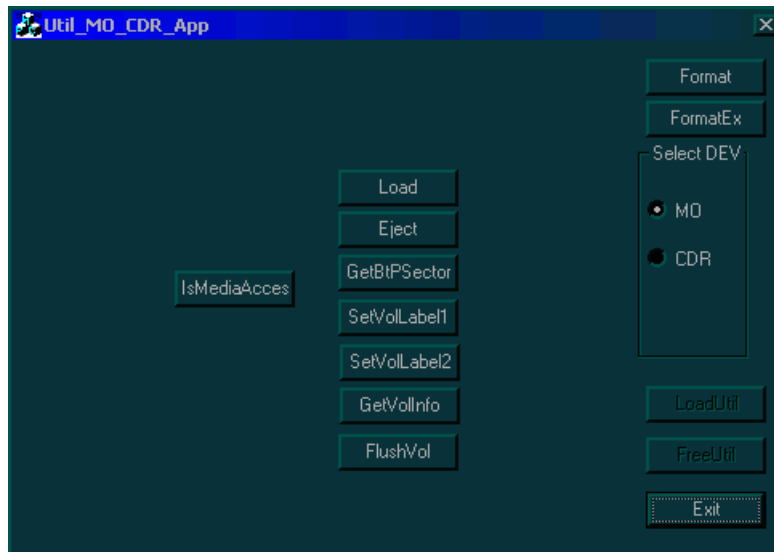

Figure 7-52 Util_MO_CDR_App Dialog Box
- 3) Trackball to the **Media Driver** button and press **Select**. The *Util_MO_CDR_App* dialog box is displayed, as shown in Figure 7-52 on page 7-77.